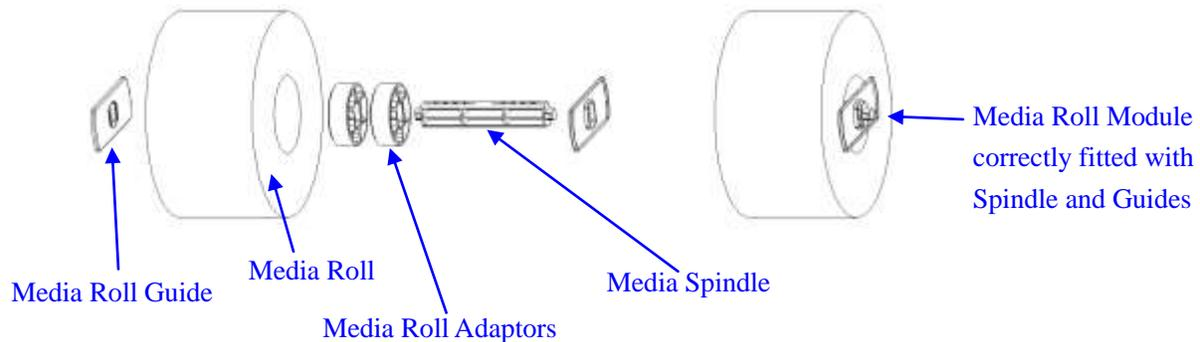

Figure 6-10
2. Secure each end of the Media Roll core by placing a Media Roll Guide onto the Spindle, and slide each Guide to the edge of the Media Roll. Ensure the Media Roll is centered onto the Spindle. See Figure 6-10.